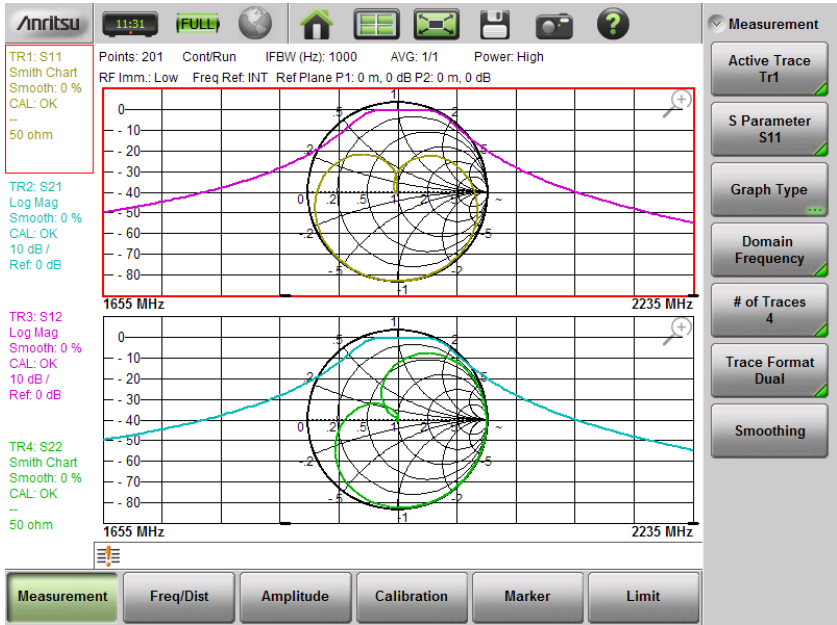

Figure 6-5. Format = Dual, Traces = 4
- Next, set Trace Format = Dual. Note how the 4 traces are assigned to the split display. TR1 (Trace 1) and TR3 are assigned to the top graph. TR2 and TR4 are assigned to the bottom graph. Refer to Figure 6-5.